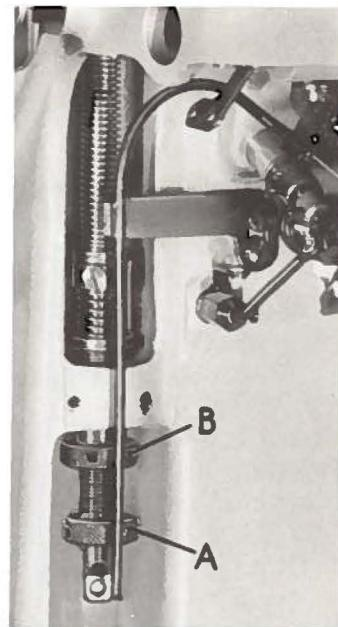

Fig. 12
Adjust the presser spring regulating screw (A, Fig. 12) so it exerts only enough pressure on the front feed cup to feed the work properly. Maintain correct setting by tightening of presser spring regulating screw nut (B) in clockwise fashion.